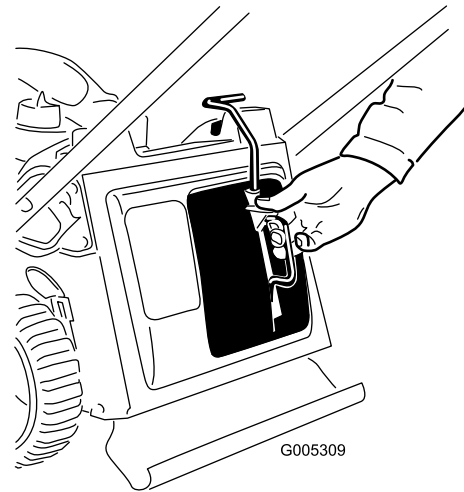
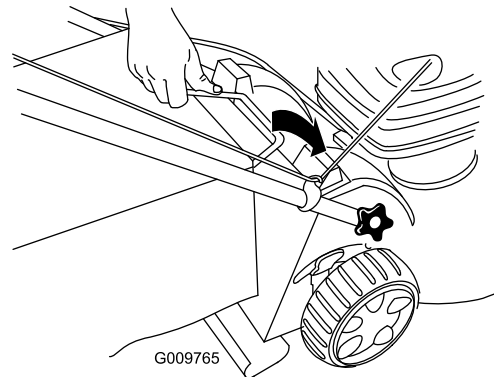

Figure 18
Figure 19
3. Tighten the upper-handle knob firmly (Figure 19).
1. Install the mulch plug (Figure 18) or the grass bag (Figure 19) on the machine.